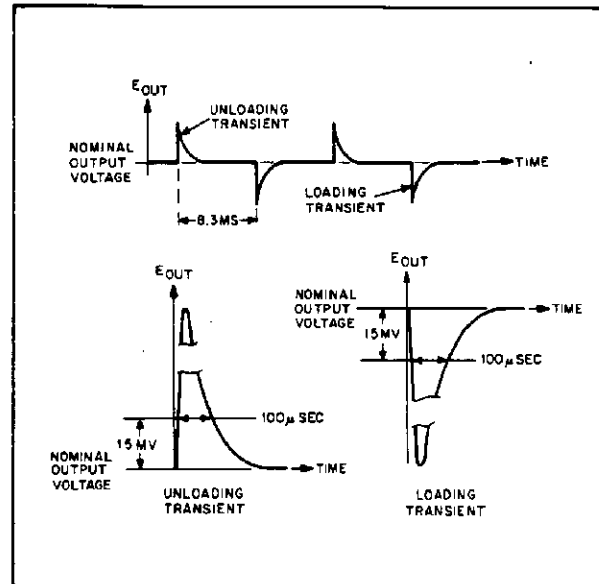

Figure 5-5. Load Transient Recovery Waveforms
n. Starting from the major graticule division representing time zero, count to the right 100  $\mu$ sec and vertically 15mV. Recovery should be within these tolerances as illustrated in Figure 5-5.